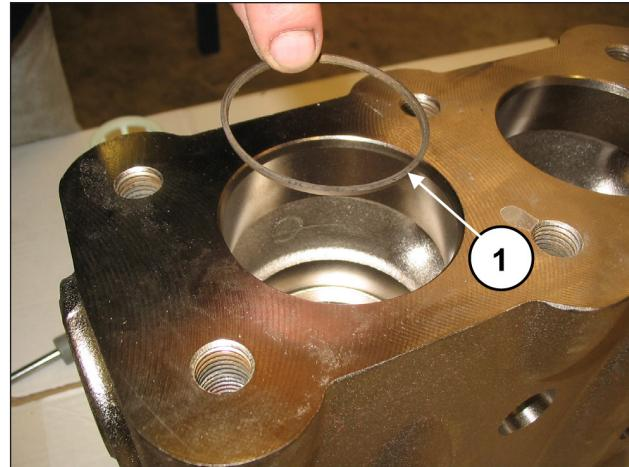

Fig. 119
Insert the back-up ring, exploded view pos. 4 (pos. ①, Fig. 119).